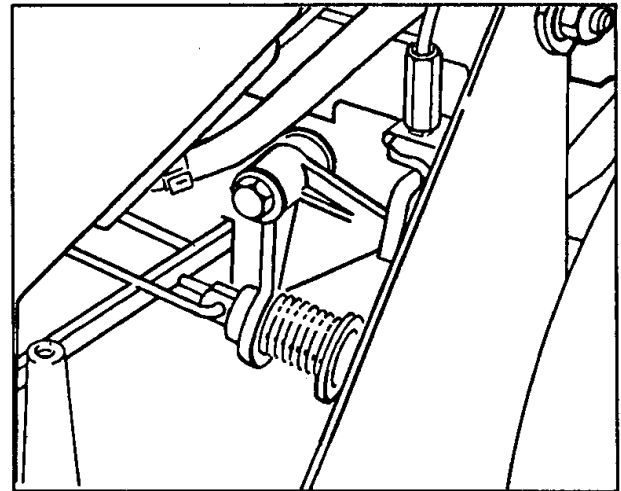

Figure 30
4. Remove any debris that may have accumulated in area behind panel (Fig. 30).